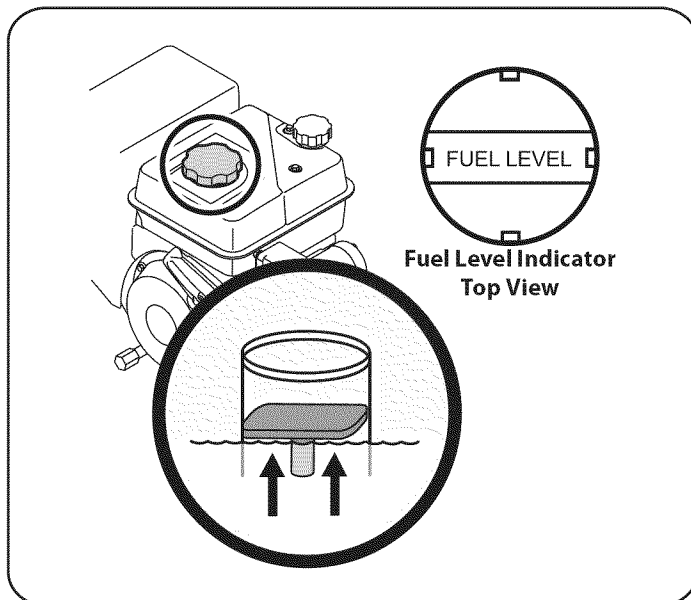

Figure 4
2. A fuel level indicator is located in the fuel tank. Fill tank until fuel reaches the fuel level indicator, Figure 4. Be careful not to overfill.
3. Slowly add oil until the oil level registers between high (H) and low (L), Figure 4. Refer to the Service and Maintenance section for the correct oil viscosity and engine oil capacity.